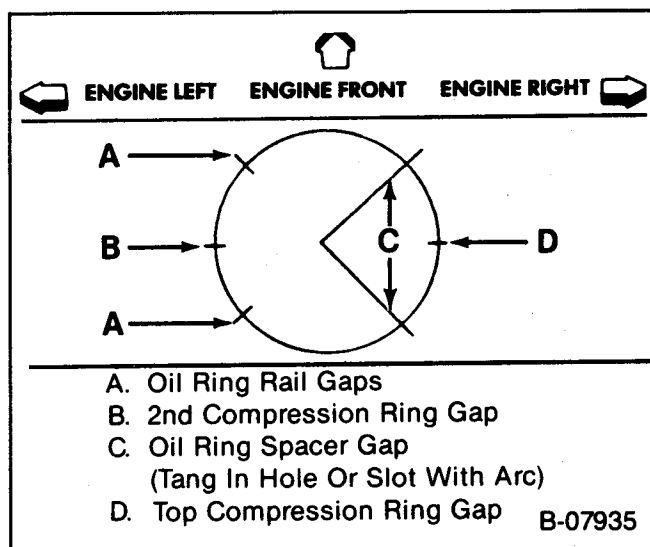

Figure 28—Ring End Gap Location
- Locate the piston ring end gaps as shown in figure 28. Lubricate the piston and rings with engine oil.